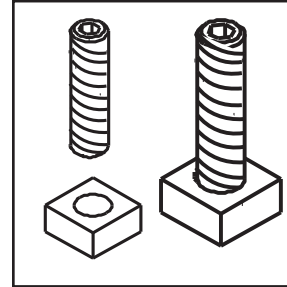

Figure 22.2
8. Thread Allen bolts through nuts until flush (**Figure 22.2**)